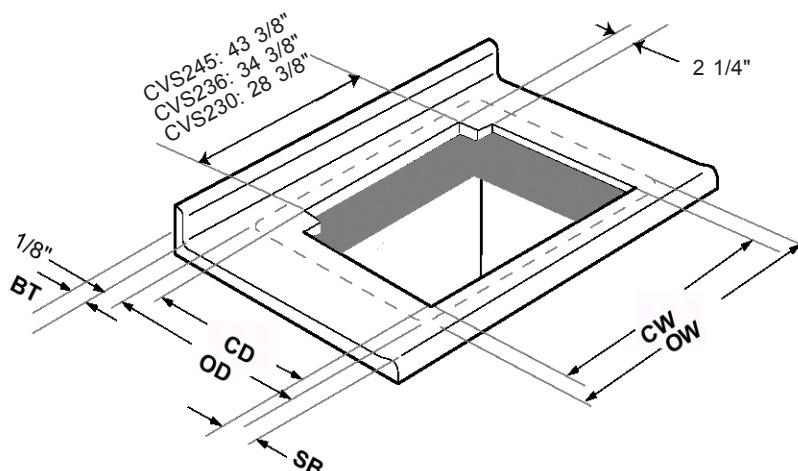

Figure 7
For installation with a Thermador cooktop, refer to Part A (at left) and Figure 7 (Page 8). For installation with another brand of cooktop, refer to Part B (Page 9).
- A. For installation with a Thermador cooktop (Figure 7 and Table 3)